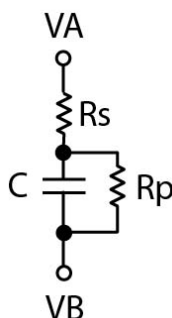

Figure 1. EL Panel Equivalent Circuit
Using laboratory data, it can be shown that the EL panel has an equivalent circuit equal to a series resistance (R_s) with a series capacitance (C) and a parallel resistance (R_p). For example, if an EL panel is 4in², then the equivalent circuit is about 20nF of capacitance in series with 450Ω of resistance and 766kΩ of parallel resistance. Figure 1 and Table 1 shows close approximations of the equivalent circuit for different EL panel sizes.